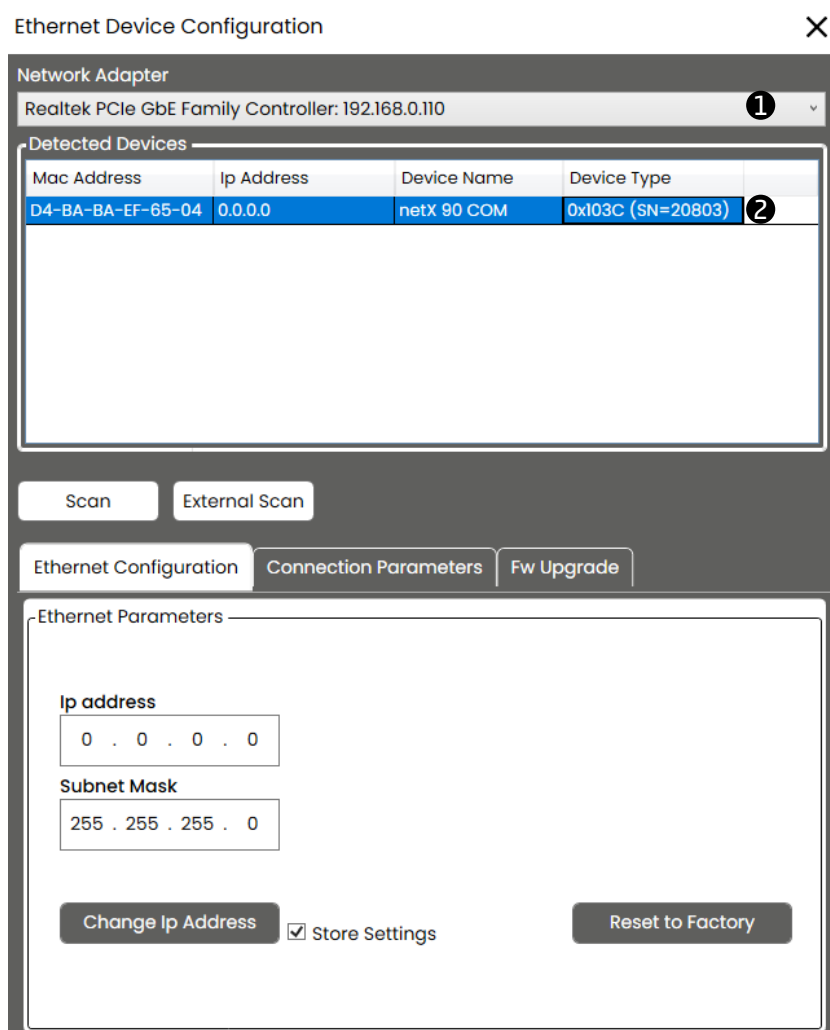

Figure 7.26: Ethernet device configuration window.
The *Ethernet device configuration* window will appear (see Figure 7.26). Choose the correct network adapter from the drop-down menu ①. After that the device connected will be visible ②.